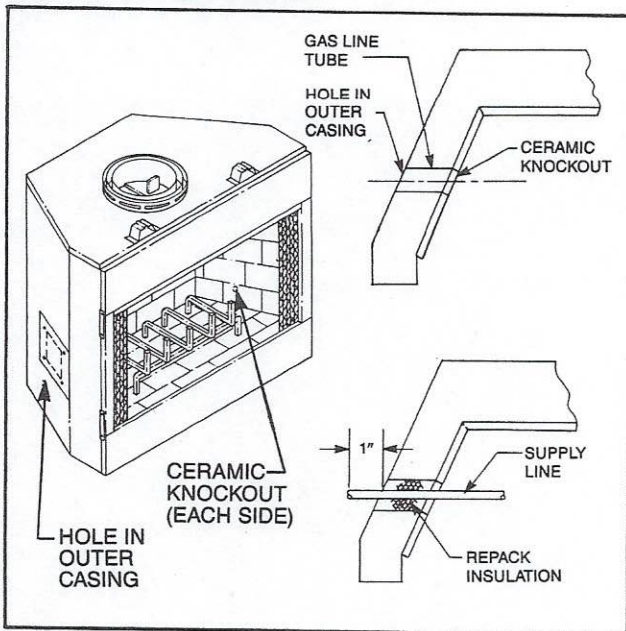

Fig. 26. Install iron pipe gas line through hole provided in either side of fireplace.
Locate the gas line hole in the outer casing of the fireplace and remove the insulation from the gas line tube. (Refer to Fig. 26.)
NOTE: The gas pipe should not come in contact with any wood structures until it has reached a point at least one (1) inch away from the fireplace side. (See Fig. 26 for installation clarification.)